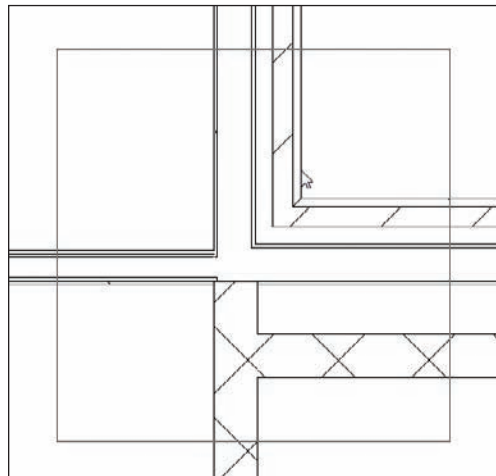

FIGURE 2.53 Choosing the intersection you wish to edit
8. Hover your pointer over the intersection. Revit will display a big box, as shown in Figure 2.53.